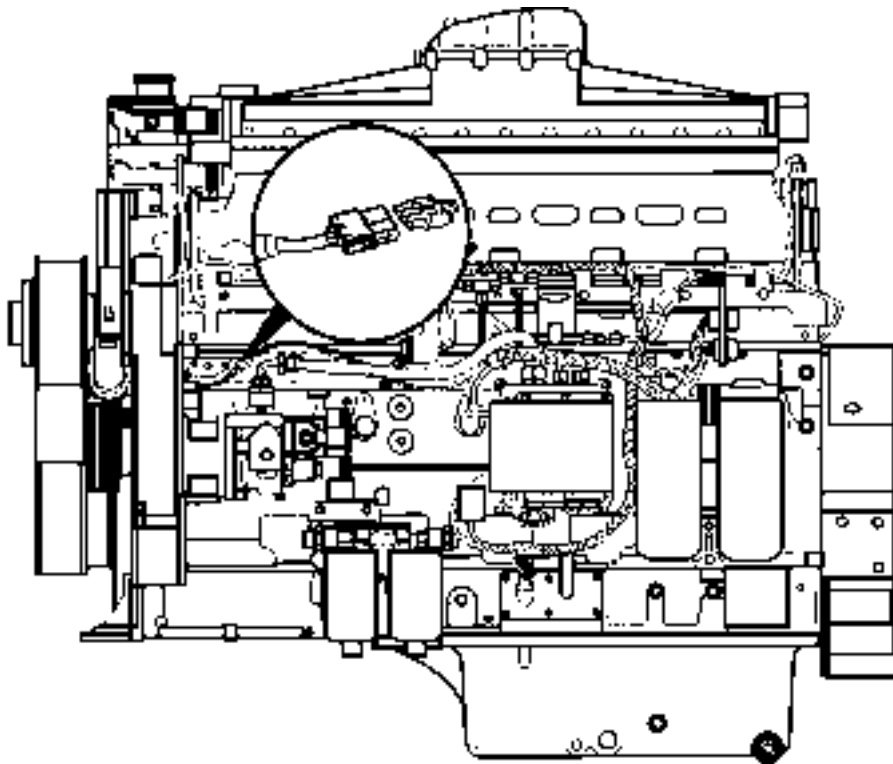

Fig. 16A. ESP engine RPM sensor connector.
3. 3. QSK-19 engine. Unplug the male part of the ESP engine RPM sensor connector. Refer to Fig. 16A.